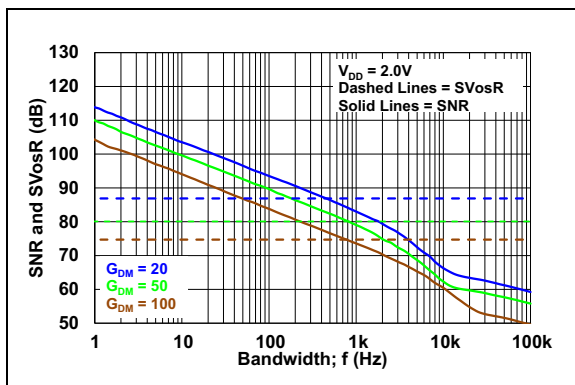
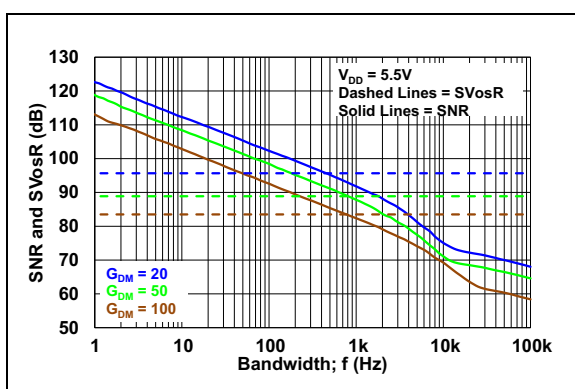

FIGURE 5-7: SNR vs. Bandwidth Estimates, $V_{DD} = 2.0V$.
FIGURE 5-8: SNR vs. Bandwidth Estimates, $V_{DD} = 5.5V$.
Figure 5-7 and Figure 5-8 show the device noise as a Signal-to-Noise ratio (SNR), assuming the signal is a full-scale sine wave (at V_{OUT}). The x-axis is the circuit's bandwidth (BW), to make it easy to evaluate a particular design.